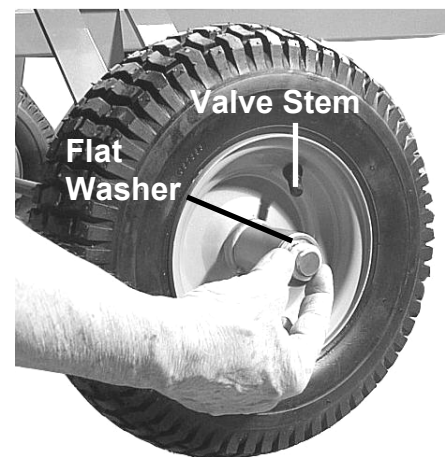

Figure 4
10. Lift the frame and with the valve stem facing out, slide a wheel on the axle, install a second flat wheel washer over the axle and slide it up against the wheel hub (*Figure 4*).